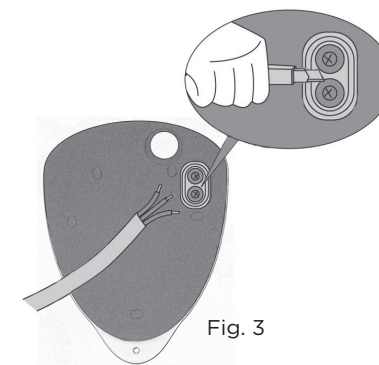

Fig. 3
2. Install the Cat5e / Cat6 through the provided hole on the rear of the detector. Terminate the Cat5e / Cat6 cable using an RJ46 connector leaving enough cable to connect to the RJ45 port. Refer to Fig. 3.